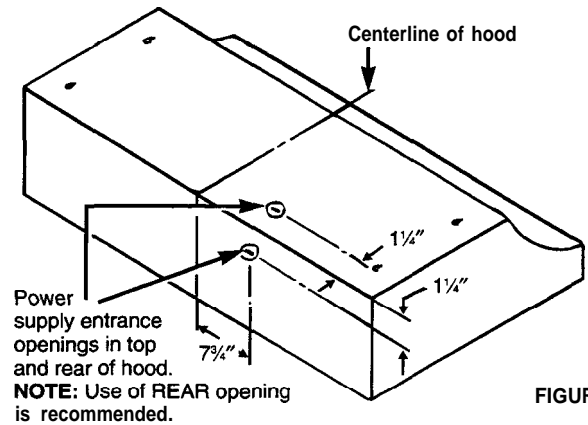

FIGURE 8
- D. **USE OF OPTIONAL TOP POWER SUPPLY:** The power supply can be attached through the top knockout if desired, but only the top or back knockout shall be opened (See Figs. 8, 9 and 10).